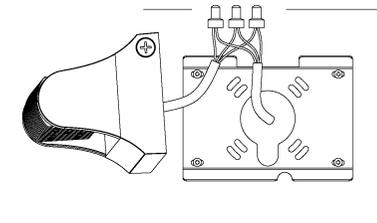

Figure 1-4
4. Make wiring connection and ensure connections are insulated. (Figure 1-4)